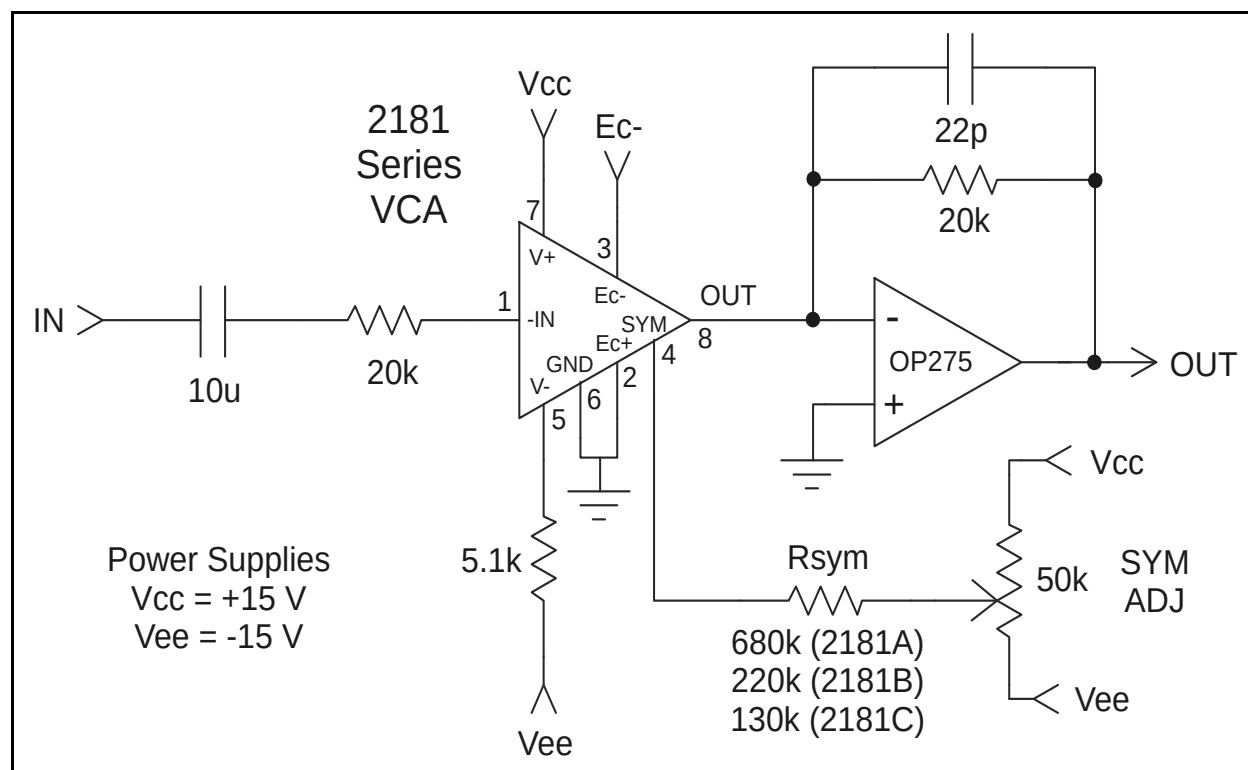
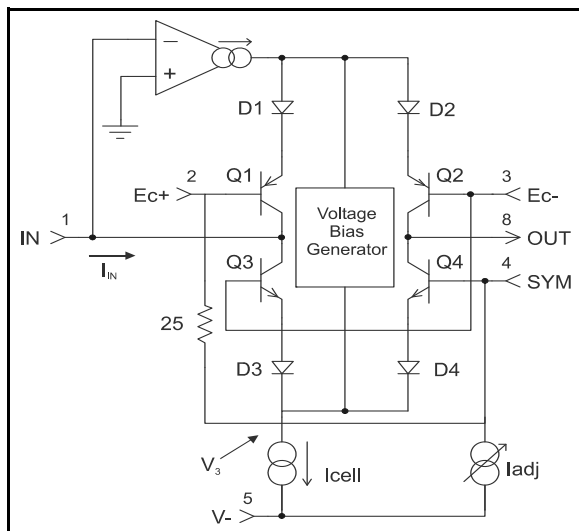
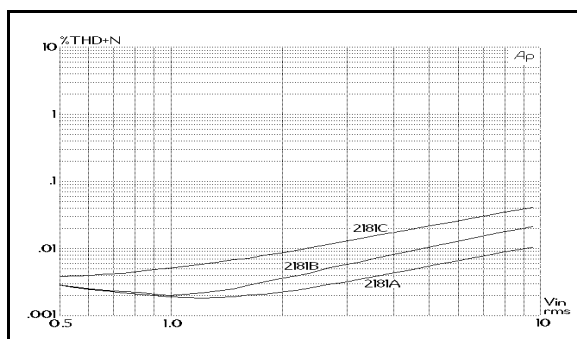
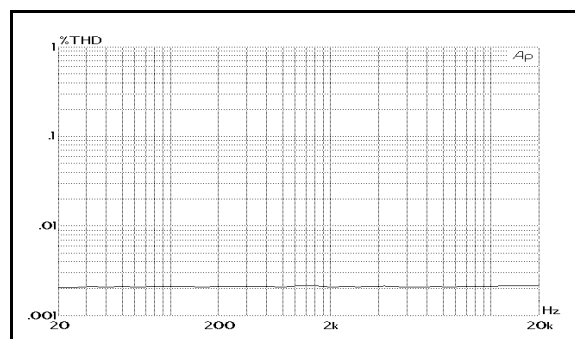

Figure 2. Typical Application Circuit
Figure 5. Simplified Internal Circuit Diagram
Figure 10. 1 kHz THD+Noise vs. Input Level, 0dB Gain
Figure 13. 2181A THD+N vs Frequency, 0dB gain 1kHz 1V
2. Unless otherwise noted,  $T_A = 25^\circ\text{C}$ ,  $V_{CC} = +15\text{V}$ ,  $V_{EE} = -15\text{V}$ . Test circuit as shown in Figure 2. SYM ADJ is adjusted for minimum THD at 1 V, 1 kHz,  $E_{C-} = -E_{C+} = 0\text{ V}$ .
Figure 5 presents a considerably simplified internal circuit diagram of the IC. The ac input signal current flows in pin 1, the input pin. An internal operational transconductance amplifier (OTA) works to maintain pin 1 at a virtual ground potential by driving the emitters of Q1 and (through the Voltage Bias Generator) Q3. Q3/D3 and Q1/D1 act to log the input current, producing a voltage, V3, which represents the bipolar logarithm of the input current. (The voltage at the junction of D1 and D2 is the same as V3, but shifted by four forward Vbe drops.)
In normal operation, the output current is converted to a voltage via an opamp-based I-V converter, as shown in Figure 2, where the conversion ratio is determined by the feedback resistor connected between the output and inverting input. The signal path through the VCA and the output opamp is non-inverting.
The 2181 current consumption is determined by the resistor between pin 5 (V-) and the negative supply voltage ( $V_{EE}$ ). Typically, with 15V supplies, the resistor is 5.1 kΩ, which provides approximately 2.4 mA. This current is split into two paths: 570 μA is used for biasing the IC, and the remainder becomes  $I_{CELL}$  as shown in Figure 5.  $I_{CELL}$  is further
The 2181-Series VCAs are intended to be adjusted for minimum distortion by applying a small variable offset voltage to pin 4, the SYM pin. Note that there is a 25 Ω resistor internal to the 2181 between pin 4 and pin 2. As shown in Figure 2, Page 3, the usual method of applying this offset is to use the internal 25 Ω resistor along with a larger value resistor to form a voltage divider connected to the wiper of a trim pot across the supply rails.
The 2181-Series VCA design, fabrication and testing ensure extremely good audio performance when used as recommended. The 2181 maintains low distortion over a wide range of gain, cut and signal levels. Figures 10 through 12 show typical distortion performance for representative samples of each grade of the part. At or near unity gain, the 2181 behaves much like a good opamp, with low distortion over the entire audio band. Figure 13 shows typical THD for a 2181A over frequency at 0 dB gain, with a 1 V input signal, while Figure 14 details the harmonic content of the distortion in a typical A-grade part.
The Input pin (pin 1) is a virtual ground with negative feedback provided internally (see Figure 5, Page 4). The input resistor (shown as 20 k $\Omega$  in Figure 2, Page 3) should be scaled to convert the available ac input voltage to a current within the linear range of the device. Generally, peak input currents should be kept under 1 mA for best distortion performance.
Refer to Figures 10 through 12 to see how distortion varies with signal level for the three parts in the 2181 Series for 0 dB, +15 dB and -15 dB gain. The circuit of Figure 2, Page 3 was used to generate these curves.
A designer may trade off noise for distortion by decreasing the 20 k $\Omega$  current-to-voltage converting resistors used at the input and output in Figure 2, Page 3. For every dB these resistor values are decreased, the voltage noise at the output of the OP275 is reduced by one dB. For example, with 10 k $\Omega$  resistors, the output noise floor drops to -104 dBV (typical) at 0 dB gain — a 6 dB reduction in noise because 10 k $\Omega$  is 1/2 of (6 dB lower than) 20 k $\Omega$ .
The Output pin (pin 8) is intended to be connected to a virtual ground node, so that current flowing in it may be converted to a voltage (see Figures 2 & 15). Choose the external opamp for good audio performance. The feedback resistor should be chosen based on the desired current-to-voltage conversion constant. Since the input resistor determines the voltage-to-current conversion at the input,
The SYM pin (pin 4) is actually a sort of additional positive-sense control port. It is provided to allow  $V_{be}$  mismatches in the core transistors to be adjusted after packaging and installation in the circuit board. It should only be used for this purpose. Connect pin 4 only to a high-impedance source as shown in Figures 2 and 15.